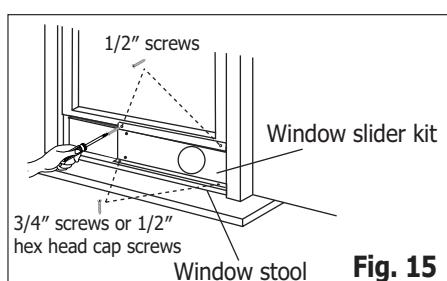

Fig. 15
- Close the window sash securely against the window slider kit. (Fig. 15)
- Drive two 1/2" screws to secure the window slider kit to the window sash. (FIG. 15)
- Secure the window slider kit to the window stool (FIG. 15):